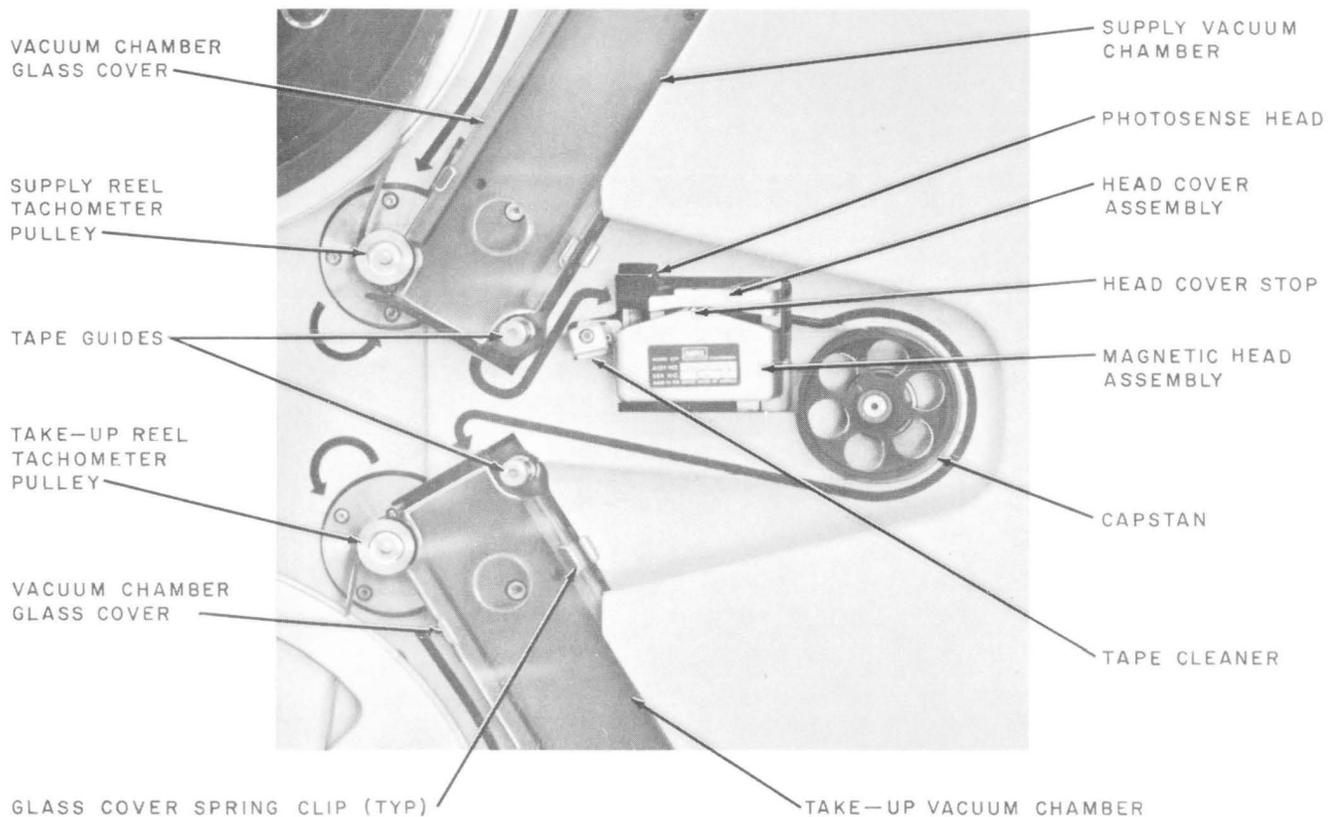

Fig. 3—Partial Front View of Tape Transport Showing Tape Path Components
(b) **Tape Transport:** The magnetic head assembly (Fig. 3), capstan, tachometer pulleys, vacuum chambers (including glass covers, photocells, and exciter lamp windows), tape guides, and photosense head shall be free of dust, film, tape oxide, and all other foreign material.
(1) Exercising care to avoid damage to the head assembly, use a clean KS-2423 cloth moistened with Freon (TF grade) to wipe off all oxide and dust accumulated on magnetic head assembly (Fig. 3), head cover assembly, and outer surface of tape cleaner.
(2) Carefully place a clean KS-2423 cloth moistened with Freon (TF grade) against the capstan, and rotate capstan *gently* by hand until all oxide and dirt are removed.
(3) Remove glass covers (held in place by spring clips) from vacuum chambers. If the covers are excessively dirty, use a KS-2423 cloth moistened with mild soap and water. Follow this by wiping with a KS-2423 cloth moistened with Freon (TF grade). Clean the inside of vacuum chambers and remove oxide and dust from loop sensors (Fig. 2) and exciter lamp windows. Replace vacuum chamber glass covers. Place a clean, dry KS-2423 cloth against the vacuum chamber tape guides (Fig. 3) and slowly rotate guides to remove oxide.
(4) Carefully clean the surface of photosense head using a dry KS-2423 cloth or a cloth which is slightly moistened with Freon.